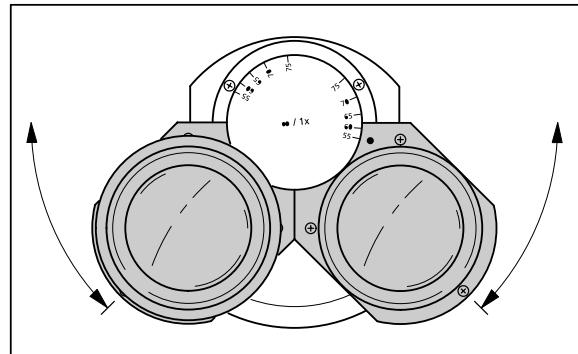

Fig. 3-54 Adjusting the eyepiece distance on the binocular tube
- Adjust the eyepiece distance (distance of the pupils) according to the individual distance of the operator's eyes (Fig. 3-54).